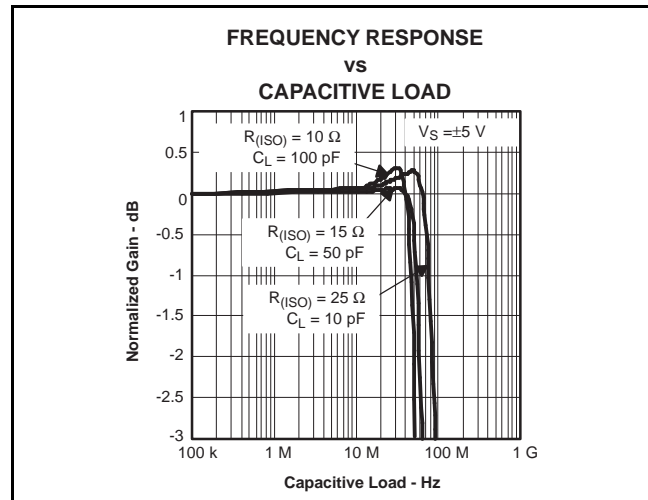

Figure 88. Isolation Resistor Diagram
4. **Connections to other wideband devices on the board may be made with short direct traces or through onboard transmission lines.** For short connections, consider the trace and the input to the next device as a lumped capacitive load. Relatively wide traces (50 mils to 100 mils) should be used, preferably with ground and power planes opened up around them. Estimate the total capacitive load and set  $R_{ISO}$  from the plot of recommended  $R_{ISO}$  vs capacitive load (See Figure 88). Low parasitic capacitive loads (< 4 pF) may not need an  $R_{ISO}$ , since the THS4211 is nominally compensated to operate with a 2-pF parasitic load. Higher parasitic capacitive loads without an  $R_{ISO}$  are allowed as the signal gain increases (increasing the unloaded phase margin). If a long trace is required, and the 6-dB signal loss intrinsic to a doubly-terminated transmission line is acceptable, implement a matched impedance transmission line using microstrip or stripline techniques (consult an ECL design handbook for microstrip and stripline
layout techniques). A 50- $\Omega$  environment is normally not necessary onboard, and in fact a higher impedance environment improves distortion as shown in the distortion versus load plots. With a characteristic board trace impedance defined on the basis of board material and trace dimensions, a matching series resistor into the trace from the output of the THS4211 is used as well as a terminating shunt resistor at the input of the destination device. Remember also that the terminating impedance is the parallel combination of the shunt resistor and the input impedance of the destination device: this total effective impedance should be set to match the trace impedance. If the 6-dB attenuation of a doubly-terminated transmission line is unacceptable, a long trace can be series-terminated at the source end only. Treat the trace as a capacitive load in this case and set the series resistor value as shown in the plot of  $R_{ISO}$  vs capacitive load (See Figure 88). This setting does not preserve signal integrity or a doubly-terminated line. If the input impedance of the destination device is low, there is some signal attenuation due to the voltage divider formed by the series output into the terminating impedance.